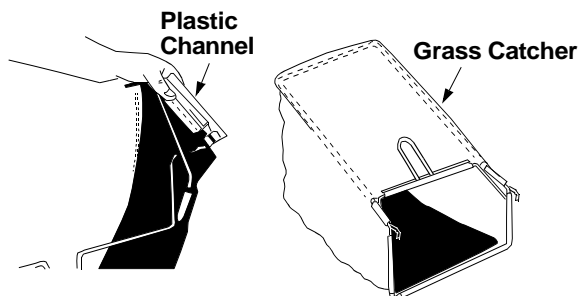

Figure 7
- Slip the side openings of the plastic channel on the bag over the hooks on the grass catcher frame. Secure bag to the frame by working the six plastic channels on bag over frame. All the plastic channels attach from the outside of bag. See Figure 7.